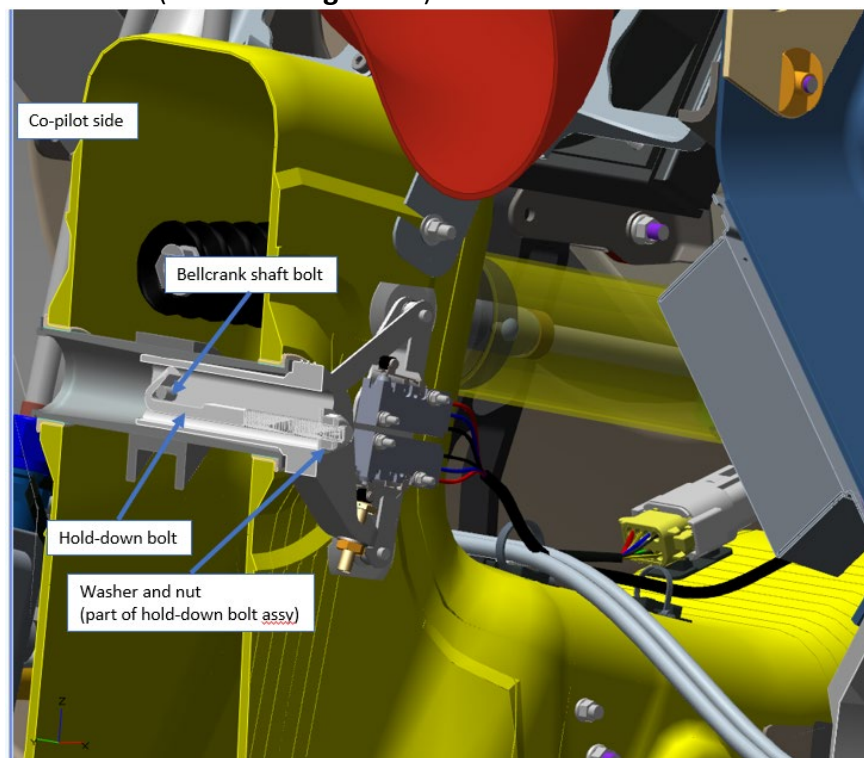

Figure 10. Cross-section view of installed bracket
10. Insert ICA015837 Limit Switch Retrofit Bracket into the bell crank shaft, orient it so it slides over the bell crank shaft bolt shown in **Figure 7** above. Remove zip-tie from hold down bolt assembly, remove and retain the washer and nut. Insert hold down bolt from co-pilot side of NLG box, and secure with 1 each retained washer and 1 each locking nut (95615A120) on the pilot side of the NLG Box. Torque to 17±2 in-lbs. (Reference **Figure 10**)